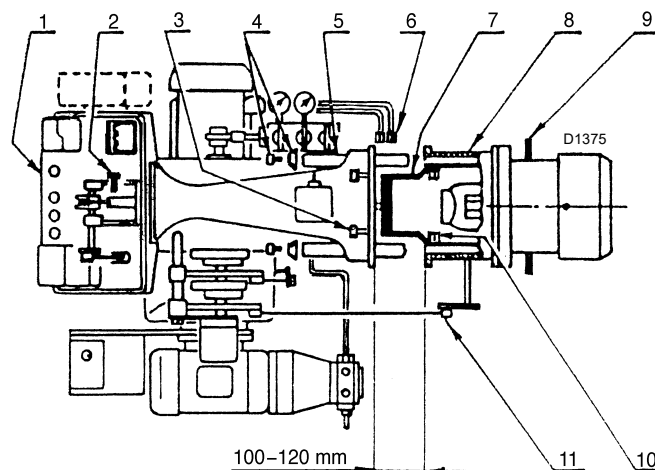

Fig. 43
- To separate the burner from the combustion head, proceed as follows (Fig. 43):